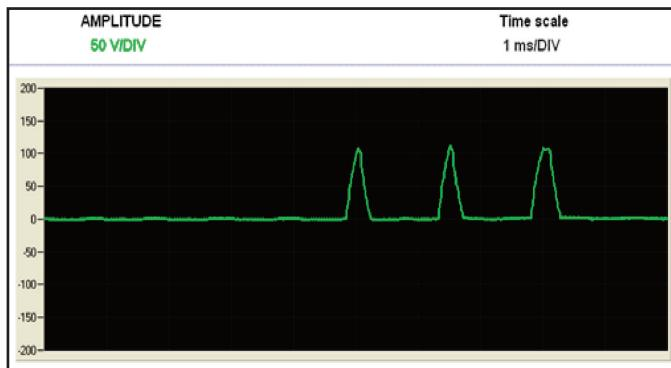

Figure 1 - A scope trace from a Euro 5 compliant diesel engine
**Result:** Figures 1, 2 & 3 scope traces are taken from a Euro 5 compliant diesel engine equipped with the Continental SID807 injection system.